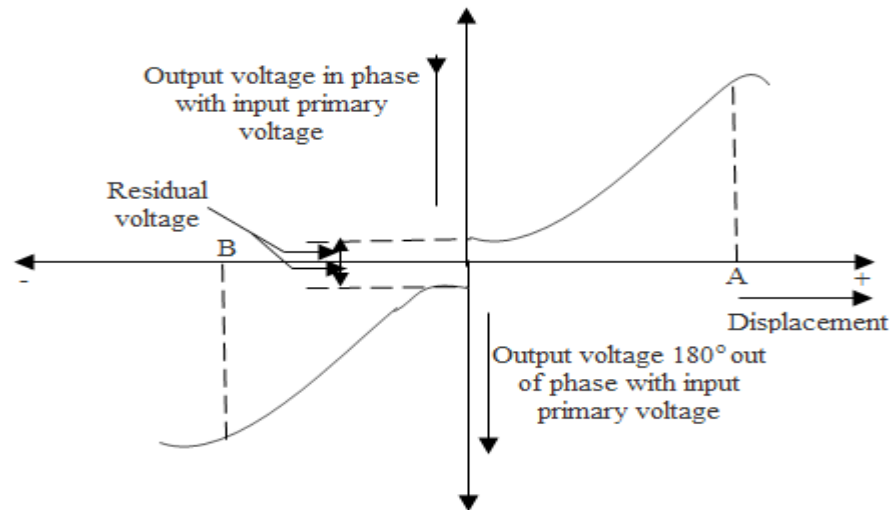

Fig. 7.3: Graph of voltage amplitude vs. displacement for LVDT
9. Plot graph of voltage amplitude vs. displacement as shown in Fig. 7.3. Comment on the nature of graph.
The curve for variation of differential output voltage with displacement of core for LVDT is shown in Fig. 7.3. The characteristics of LVDT are linear for limited range of displacement (about 5 mm on either side from the null position) and beyond this range, the curve starts flattening out at both ends.